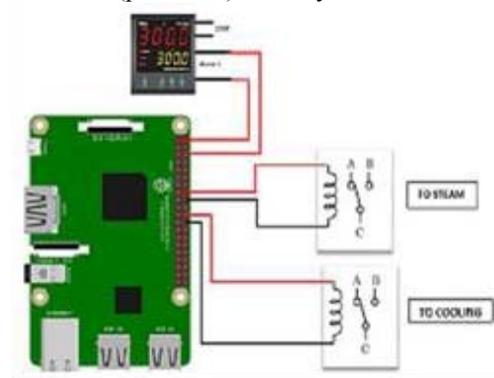

Figure 5. Circuit diagram
- Connect Alarm 1 of the temperature controller to GPIO (Pin 29) as shown in fig 5.